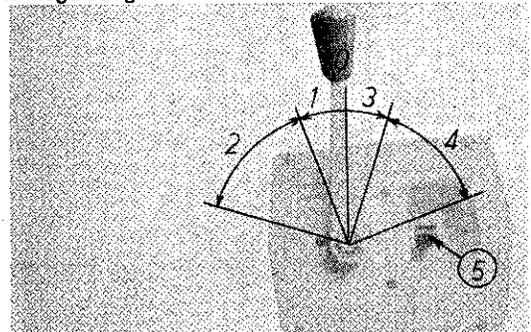

Fig. 13
1. Put the marine gear in neutral position by means of the control handle (fig. 13). By starting a cold engine, possibly release gear (fig. 13, item 5) and put control handle into range 2 (fig. 13, item 2).
1. With the control lever in central position (fig. 13, item 0), the engine is idling and the marine gear is in neutral. When the lever is moved forward in range 1 the marine gear is engaged to "Ahead" and in range 2 the gasregulation is working. When the lever is moved backwards in range 3 the marine gear is engaged to "Astern" and in range 4 the gasregulation is working.